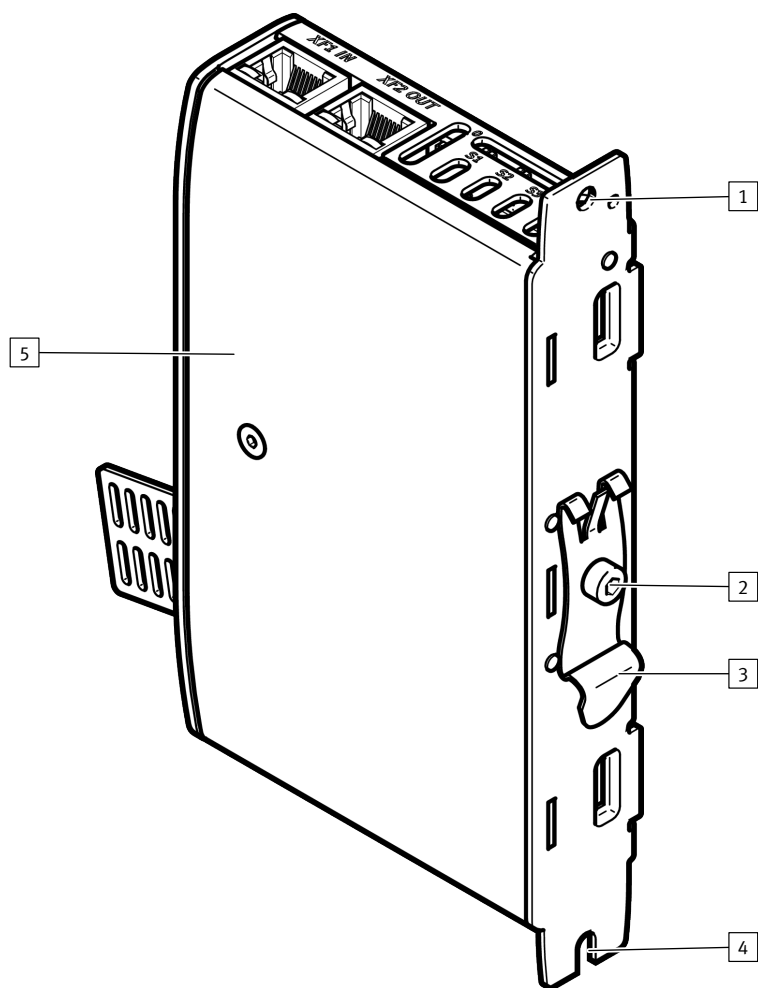

Fig. 4: Elements on the back
- If the H-rail clamp is not premounted, screw it on using the original screw on the back → Fig. 4.